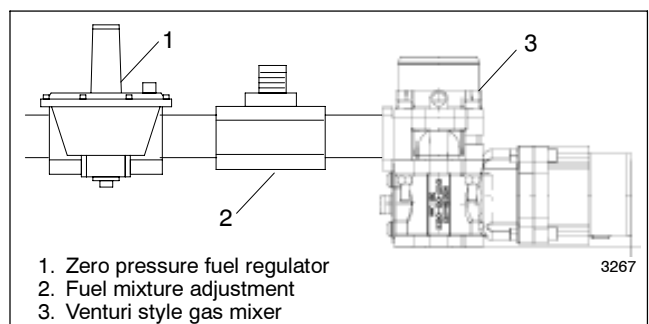
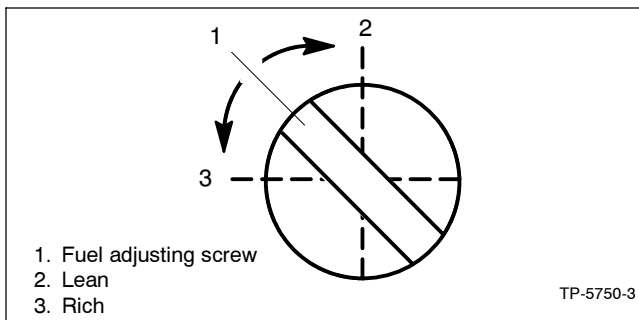

Figure 7-43 30–60 kW with Venturi Style Fuel Mixer
Figure 7-44 Fuel Mixture Adjustment, Typical
- a. **30–60 kW generator sets.** Venturi style gas mixer used with an integrated throttle body governor on 4.3 L, 5.0 L, and 5.7 L GM engines. Also similar to the IMPCO model 100 used on the 30 kW with 3.0 L GM engine. See Figure 7-43.
- Adjust the fuel mixture adjustment (see Figure 7-43 and Figure 7-44) to obtain a full load oxygen sensor voltage reading in the range specified in Figure 7-39.
- Adjust the zero pressure regulator (see Figure 7-43 and Figure 7-44) to obtain a no load oxygen sensor voltage reading in the range specified in Figure 7-39.
- Adjust the fuel regulator adjustment screw to the approximate midpoint of its adjustment range. See Figure 7-44.